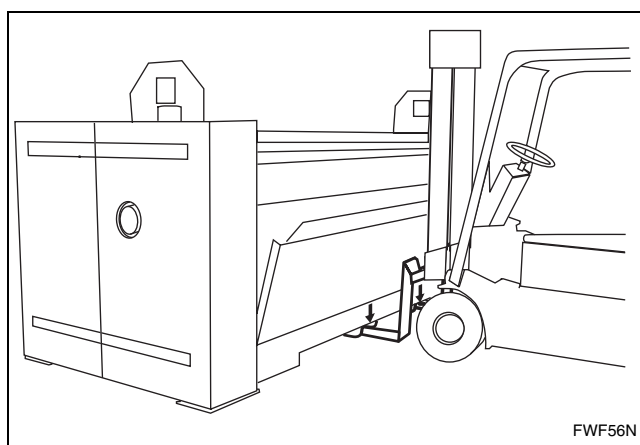

Figure 3
1. Position the forklift arms beneath the center of the unit in the built-in forklift slots. Refer to *Figure 3*.